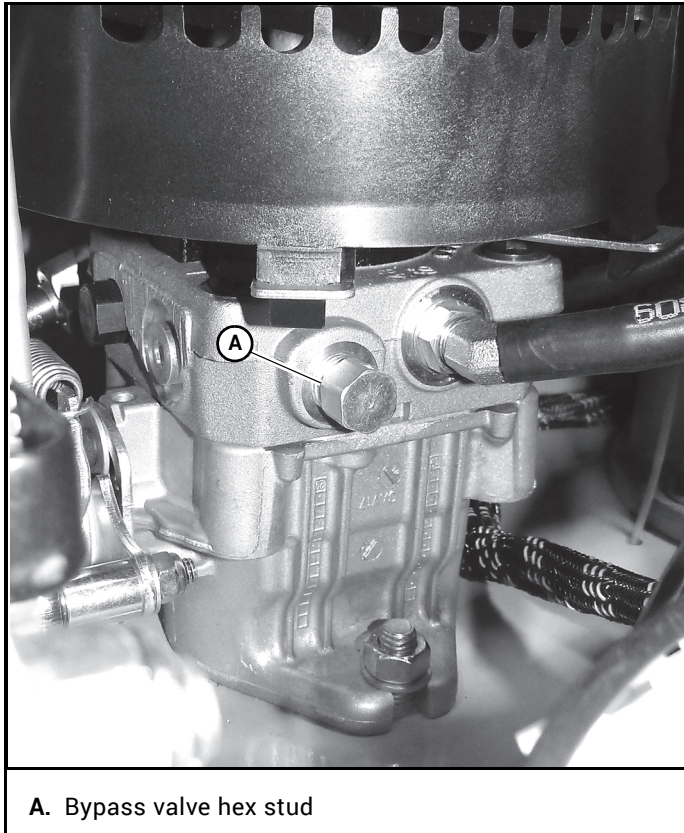

Figure 3-10
If it becomes necessary to move the mower when the engine is inoperative, the hydraulic pumps are equipped with bypass valves. Figure 3-10
- Rotate the bypass valves counterclockwise one-half to one revolution. Figure 3-10